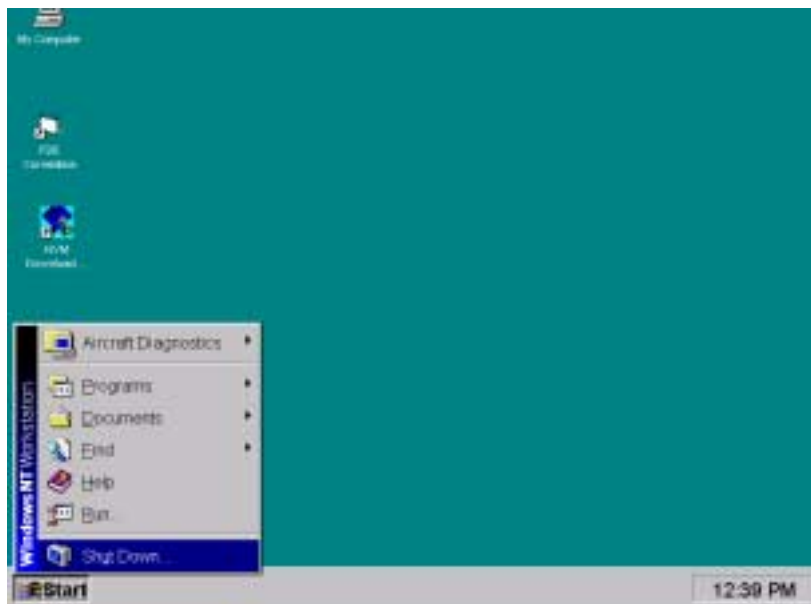

Figure 20 "Start - Shut Down" Menu Selection on Task Bar
3. On the task bar, select "Start - Shut Down". See Figure 20.